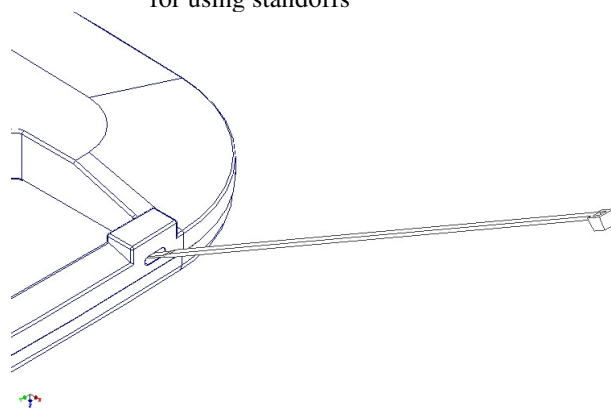

Figure 2 – Insert cable tie through Kensington lock slot
Step 2 - Optional safety tether: To attach the optional safety tether, insert the included cable tie into the Kensington lock slot at an angle toward the top of the access point. There is an opening that will allow the cable tie to pass through (reference Figure 2).